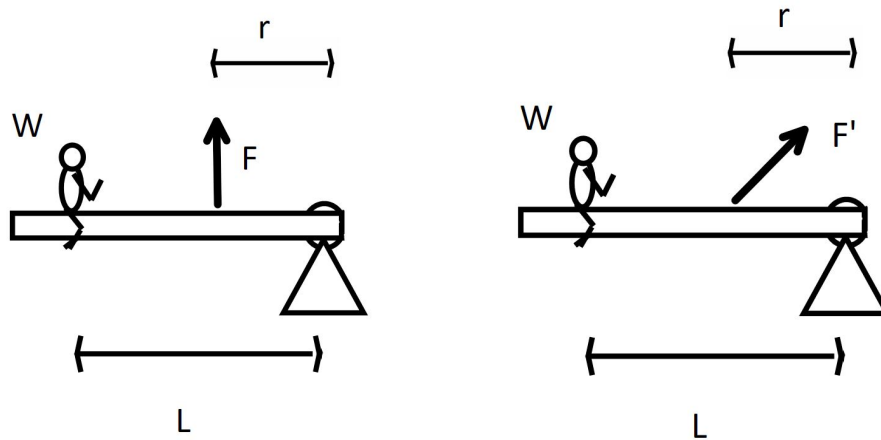

Figure 2: Diagrams for warm up problems 3 (left) and 4 (right).
3. Consider now a slightly modified seesaw setup (pictured in figure 2), with a child of weight  $W$  sitting a distance  $L$  to the left of the pivot. This time, the seesaw is balanced by the pull from a vertical rope, attached at a distance  $r$  to the *left* of the pivot. Express the upward force  $F$  exerted by the rope in terms of  $W$ ,  $L$ , and  $r$ .
(pictured in figure 2). Knowing the force balancing the seesaw acts along the rope, does the magnitude of this new force  $F'$  need to be larger, smaller, or the same size as the previous (vertical) force  $F$  in order to balance the seesaw?